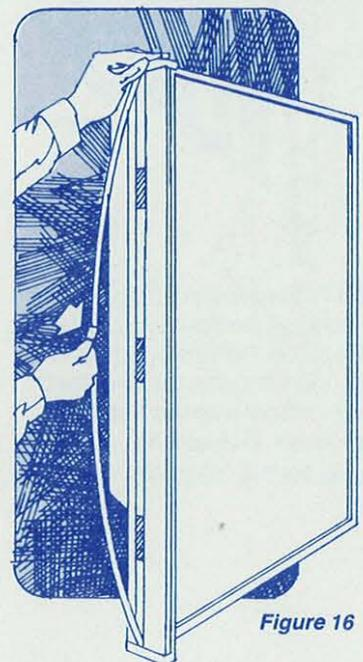

Figure 16
A) To install front panels on your Sub-Zero, the door handles must be removed. The handle screws are hidden by a magnet backed trim molding. Remove the molding using a piece of tape to pull it away from the handle and expose the handle screws. **NOTE: the molding will bend at center allowing removal as in Figure 16.**
NOTE: The trim molding will bend out at the center allowing removal as shown in Figure 16.